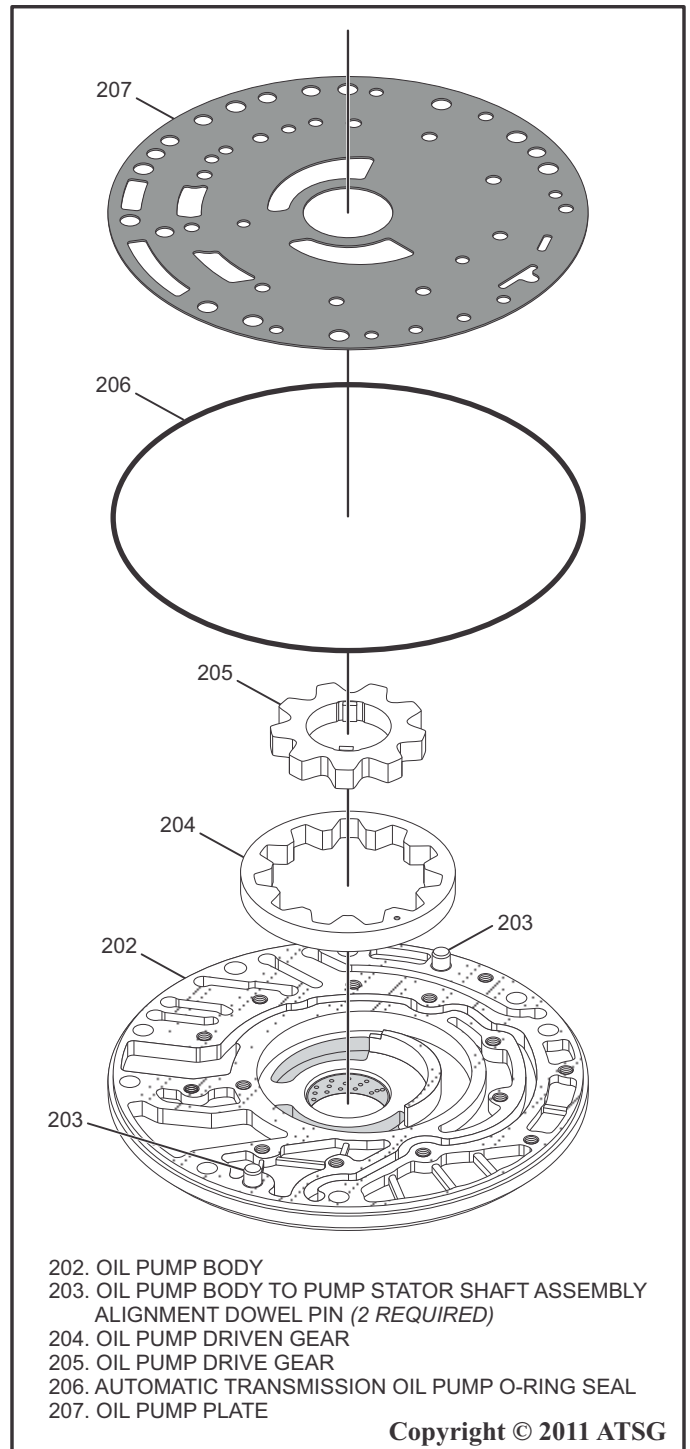

Figure 98
16. Remove the Oil Pump Plate, Oil Pump O-Ring Seal (Discard the O-Ring Seal) and the Oil Pump Driven and Oil Pump Drive Gears from the Oil Pump Body as shown in Figure 98.
17. Remove the Oil Pump Body Alignment dowels as shown in Figure 98.